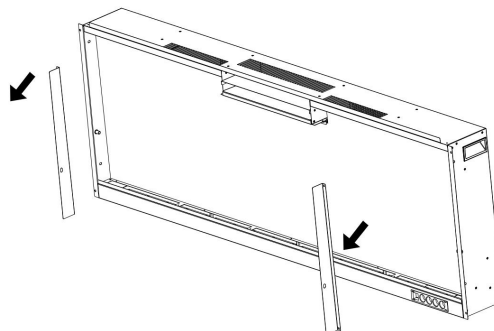

Fig. 1-2
- B.** Carefully lift the front trim up and away from the appliance (Fig. 1-2). Place it face down on a soft, non-abrasive surface.